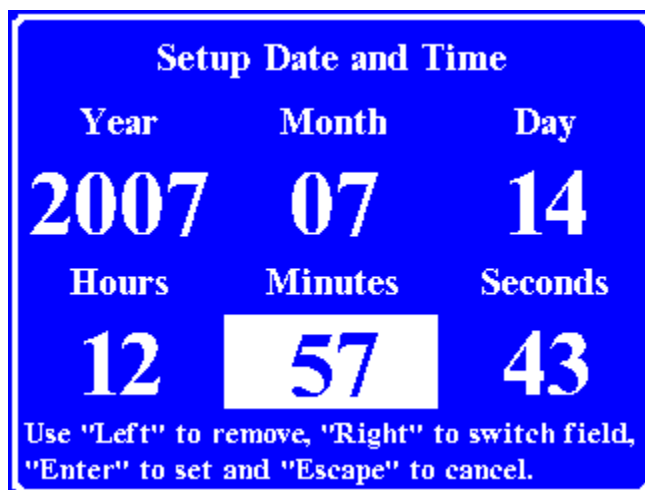

Figure 5-23. Time/Date Setup Screen
2. Press Enter to open the Setup Date and Time screen. See figure 5-23.